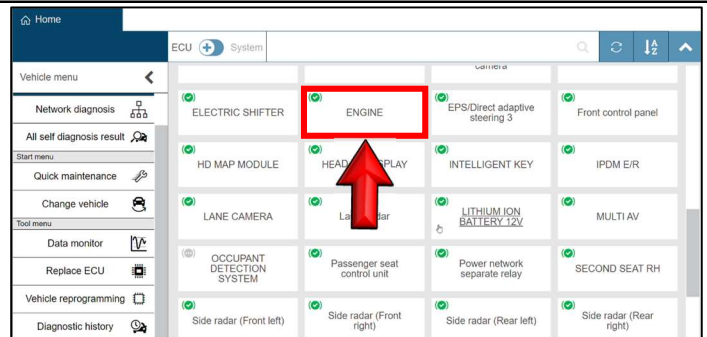

Figure 23
24. Locate and select **ENGINE**. (Figure 23)